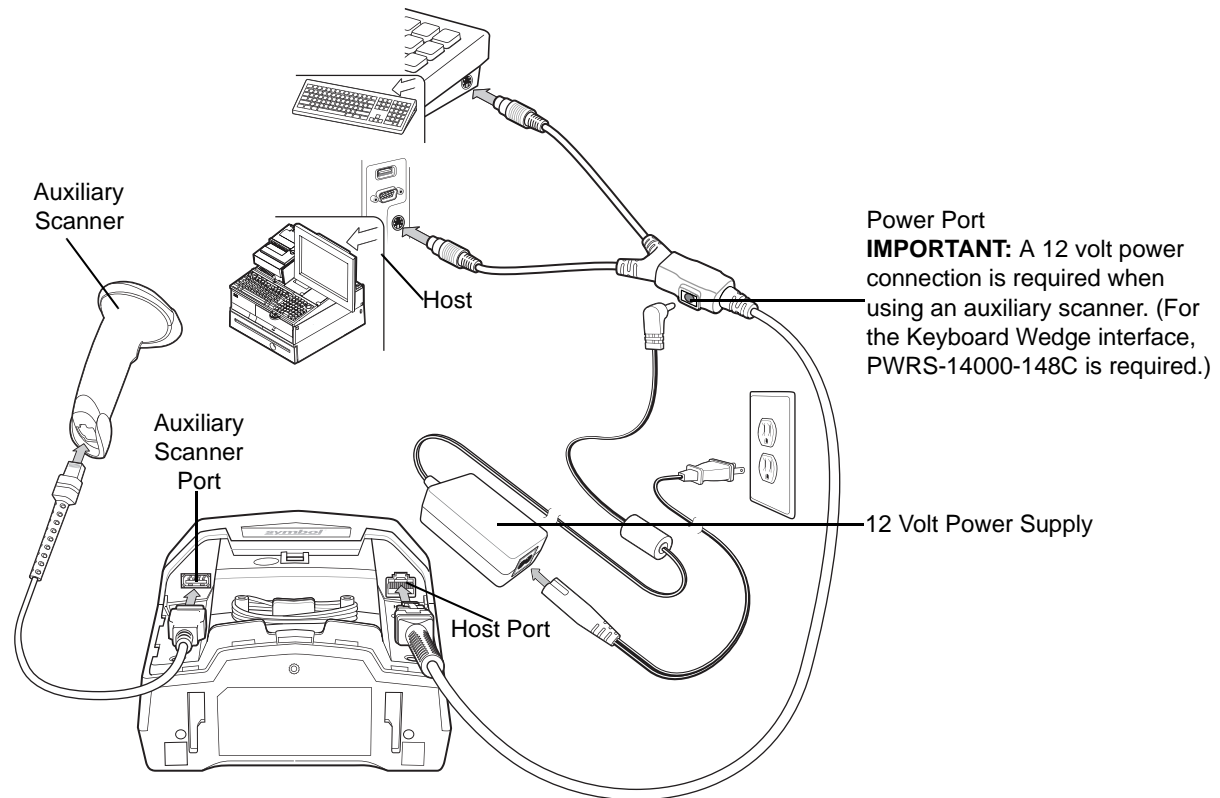

Figure 9-2 Keyboard Wedge Connection - With Auxiliary Scanner/Power Supplied Externally
- The DS7708 connects directly to the host computer and keyboard using the keyboard wedge Y-cable, and an auxiliary scanner connects to the DS7708. A 12 volt power connection is required when using an auxiliary scanner (see Figure 9-2).
- b. Connect a 12 volt external power supply as shown in Figure 9-2.